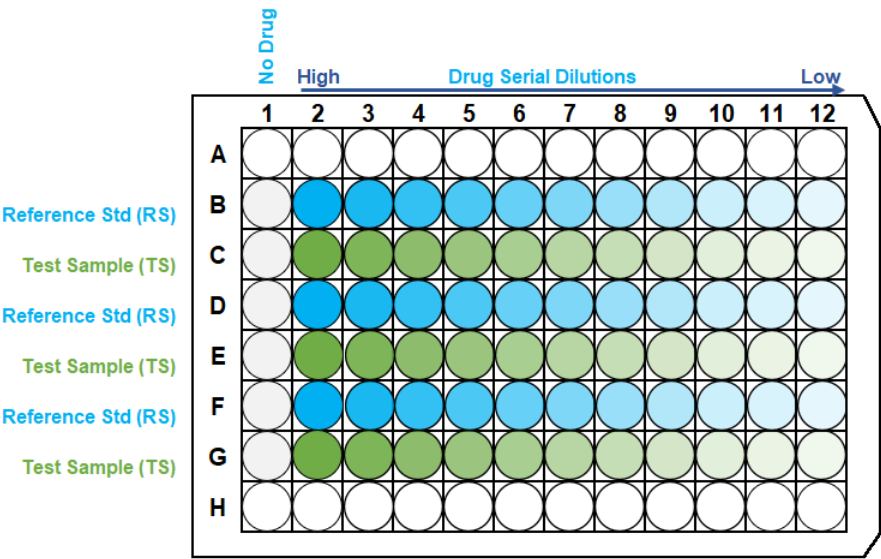

Figure 2. Representative Assay Plate Map
6. Transfer 20 µL of the 5X sample dilutions from the MDP to the appropriate wells containing cells in the assay plate. Refer to example in Figure 2. Representative Assay Plate Map: